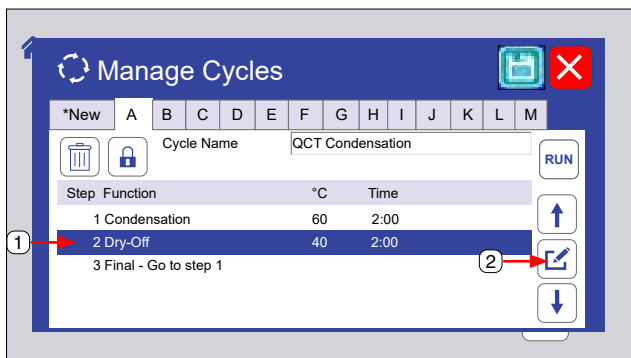
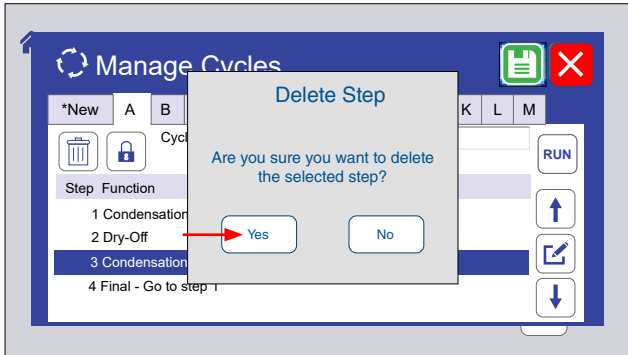

Figure 8.7.4a: For any cycle, a new step can be added before or after an existing step. Select the existing step then touch the Edit icon.
Figure 8.7.6c: Touch the Yes button to delete the step or touch No to cancel the delete.
- o Add, edit, or delete steps in a cycle (Figure 8.7.4a through Figure 8.7.6c). Pre-programmed test cycles cannot be edited (they can be deleted).